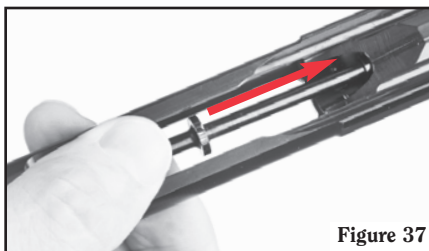

Figure 37
- f. Insert the firing pin (Figure 37).